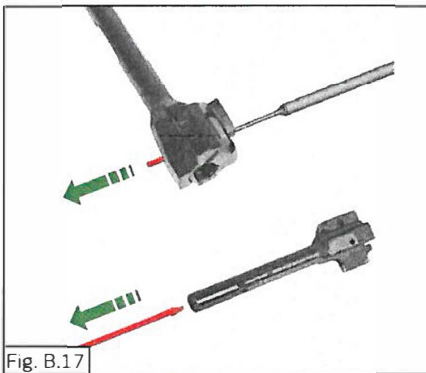
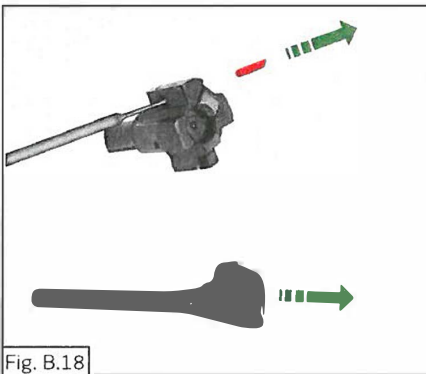

Fig. B.17
Fig. B.18
- disassemble the bolt. For this purpose drive out the firing pin stud with the drift and remove the firing pin from the bolt channel as shown in Fig. B.17, force out the extractor pin with the drift and remove the extractor with the spring as shown in Fig. B.18;